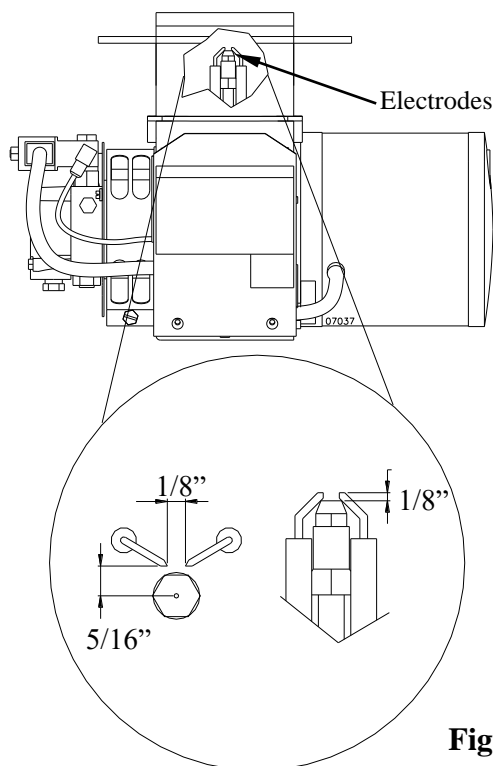

Figure 22
3) Reset the spacing as shown below in Figure 22.